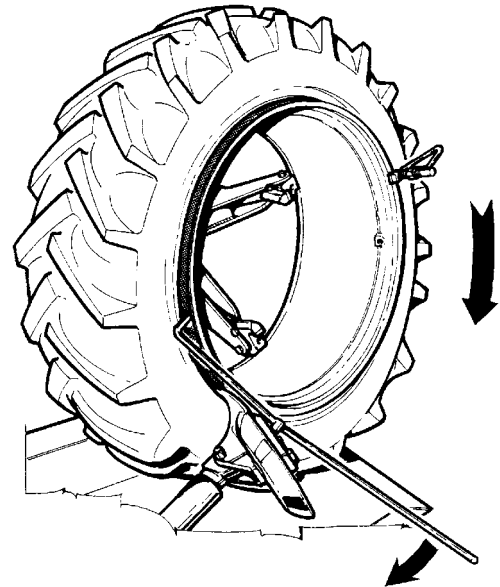

Fig.50
7. Place the hook tool as described in 5.5.2. Rotate the chuck clockwise till the tire bead is completely mounted. If necessary, use the bead bar to keep the bead in the drop center (fig.50).